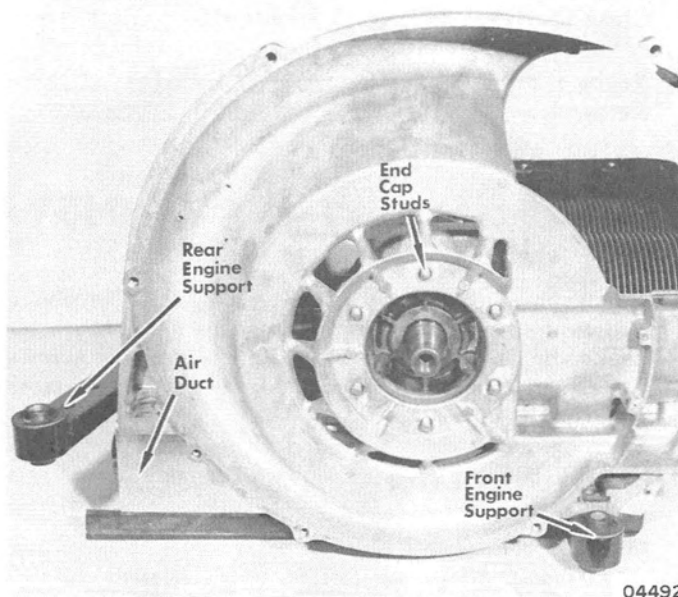

Figure 3. Engine Supports
9. Remove nuts and washers which fasten fan housing to end cap studs. (Figure 3)
10. Pull rear engine support away from fan housing, as shown in Figure 3, and remove fan housing.